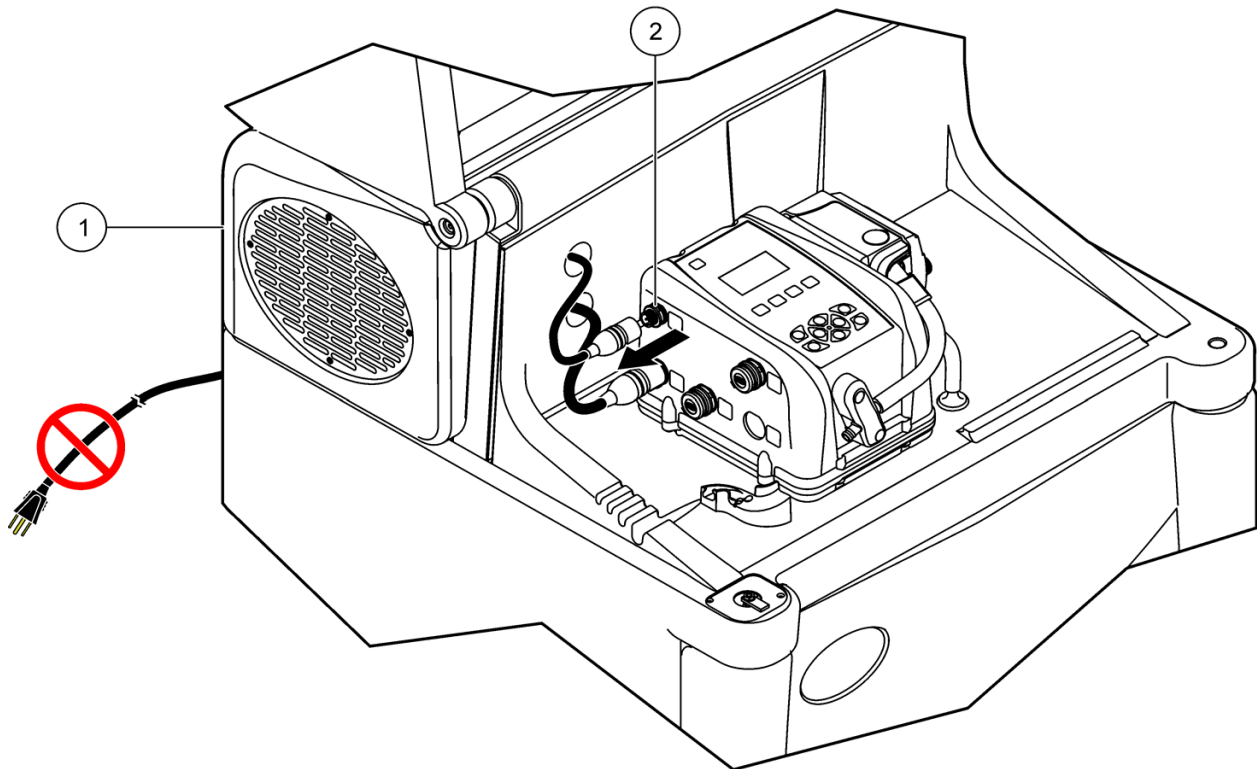

Figure 6 Power disconnect for SD900 All Weather Refrigerated Sampler
3. Disconnect the power cable from the controller (Figure 6 on page 7). Feed the cable back through the bulkhead to the compressor compartment, removing the foam plug from the opening if necessary.